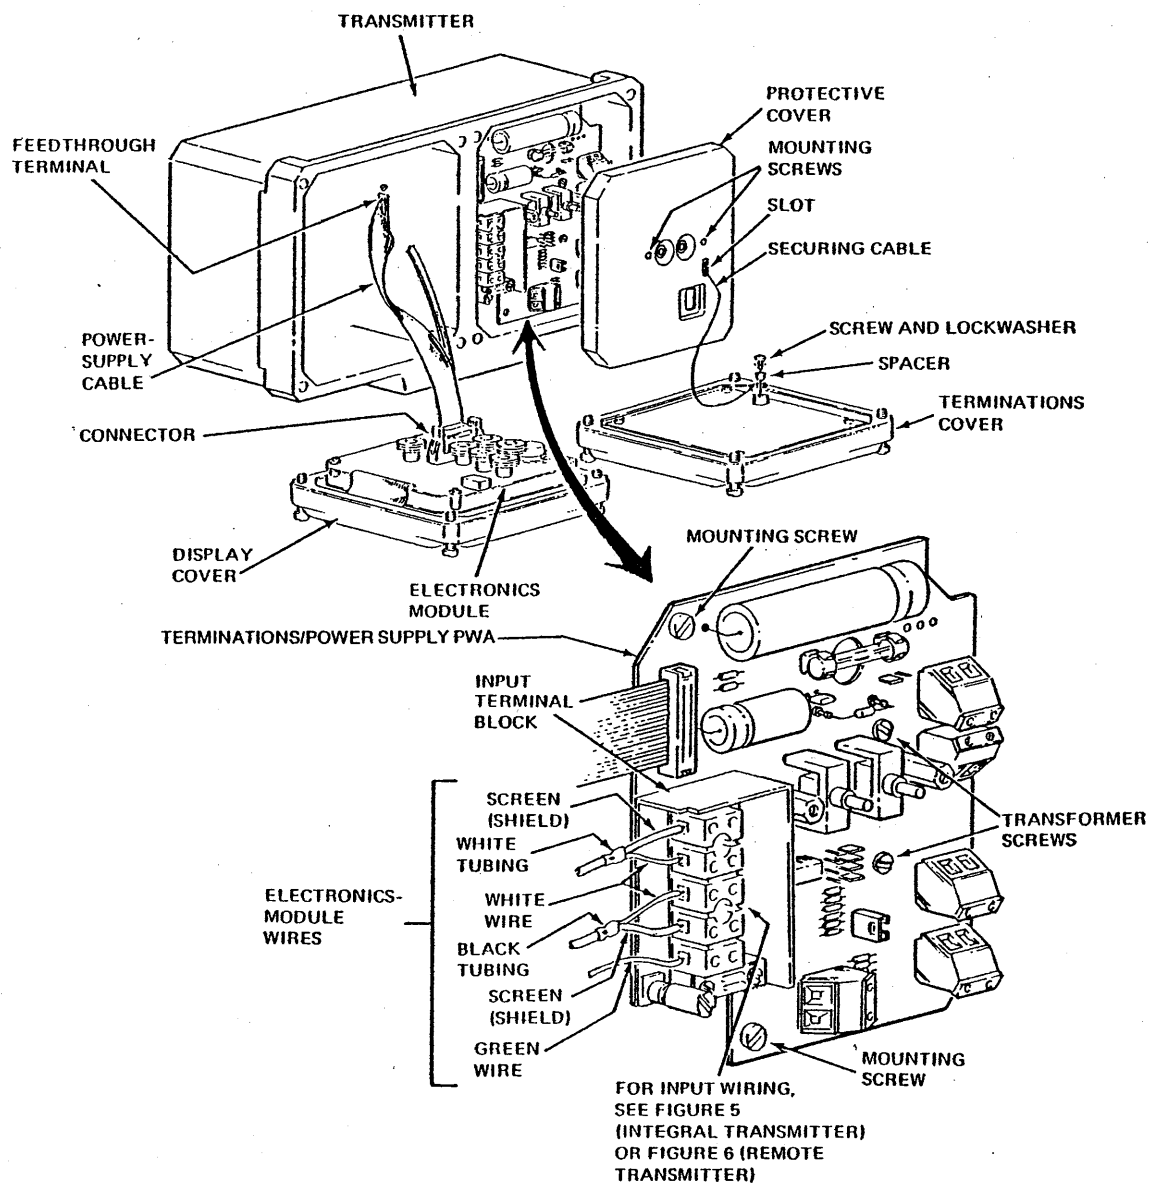

Figure 11. Removing Terminations/Power Supply PWA from Transmitter
2. After positioning links on new power supply (see CAUTION above), remove display cover from transmitter as shown in Figure 11.
3. Unlatch and unplug power supply cable from connector on electronics module (see Figure 11).
4. Remove two screws and lockwashers from feedthrough terminal on power-supply cable (see Figure 11). Save screws for installation of new cable.
5. Remove terminations cover (shown in Figure 11) from transmitter.
8. Loosen all ten terminal screws on input terminal block shown in Figure 11.
11. Refer to Figure 11 and remove two mounting screws from terminations/power supply PWA. Also, loosen two transformer screws that secure transformer to the transmitter housing.
12. Lift terminations/power supply PWA (shown in Figure 11) out of transmitter housing just far enough so that electronics-module wires can be disconnected from input terminals of transmitter. Wires have color coded tubing. Note color code and disconnect wires from terminals.
16. Arrange and connect the color-coded electronics module wires to input terminal block (Figure 11).
19. Install two PWA mounting screws as shown in Figure 11.
23. Insert securing cable through slot in protective cover (see Figure 11); reinstall protective cover over transmitter terminals. Connect securing cable to terminations cover with screw, spacer and washer removed in Step 6.
25. Plug power-supply cable into its connector on electronics module so that connector latches snap into place. Cable and connector are shown in Figure 11.